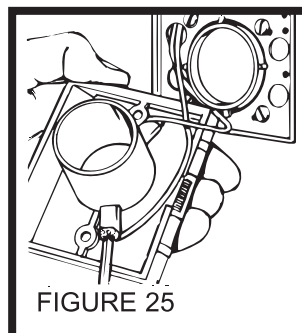

FIGURE 25
5. Refer to Figure 25 on page 9. Run low voltage wiring (Model 376UL) and secure wiring to tubing as tubing is installed. Model CF380 Pipe Support can be used to support long runs of tubing (position near joists) and to clip wire along tubing. Secure tubing to joists or studs. Leave approximately 6" of wire for connection to each inlet.
2. Refer to Figure 25. Connect 2-conductor low-voltage wire to terminal screws on back of wall inlet.